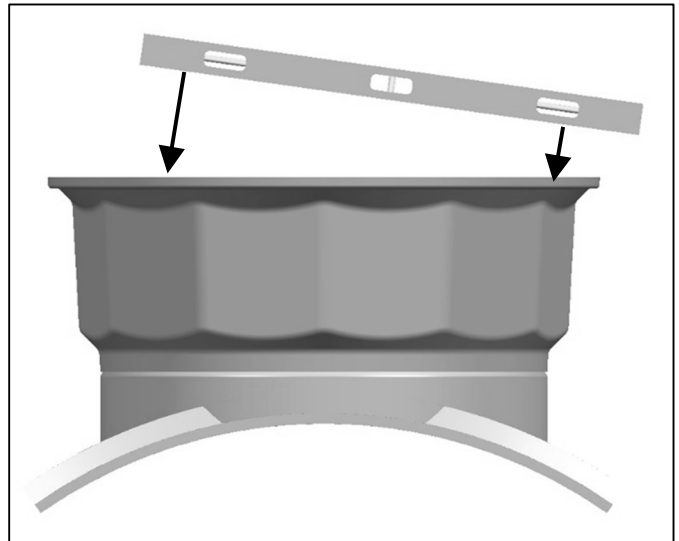

Figure 7
\* See Installation Instructions supplied with Flexworks Sump Mounting Flanges. Ensure sump is level as described in Method 3c and Figure 7.
Attach the base of the sump to the tank flange per tank manufacturers instructions. Reverse flange sumps have 24 bolt holes on a 32" bolt circle with a 29.25" ID. Ensure sump is level as described in Method 3c and Figure 7.
c) Use a level to set the sump base on the collar as shown in Figure 7.